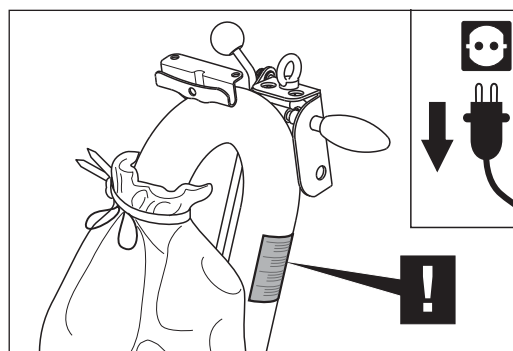

Fig. 42 **Note the warning on the guide tube!**
- **Note the warning on the guide tube (fig. 42)!**